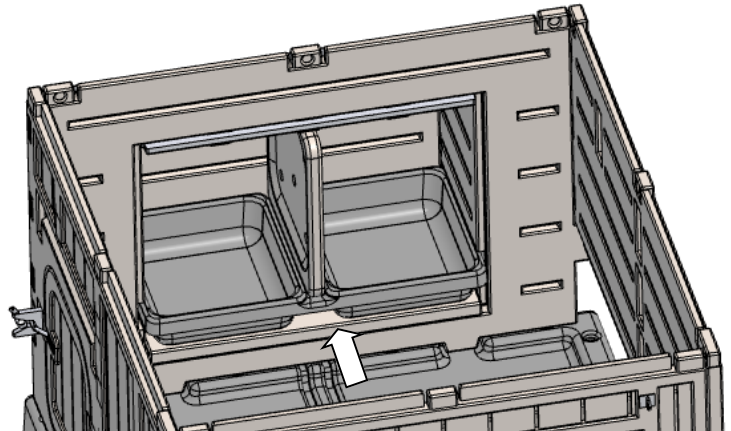

Fig. 9
Step 9: From inside the coop, slide the Nest Tray into the Nest Box, underneath the Nest Divider. (Fig. 9)